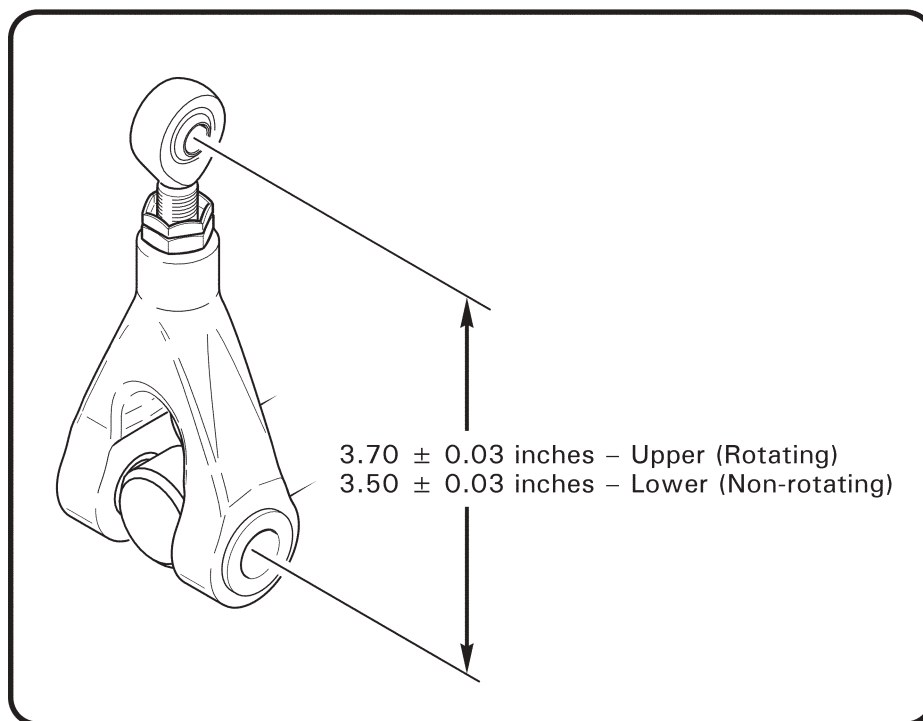

FIGURE 10-3 A205 (-9 SHOWN) DIMENSIONS FOR SWASHPLATE SCISSORS
2. Verify A205 forks at swashplate are set to proper length per Figure 10-3. Lower fork assembly must be 3.50 ± 0.03 inches center-to-center and upper fork assembly must be 3.70 ± 0.03 inches center-to-center.